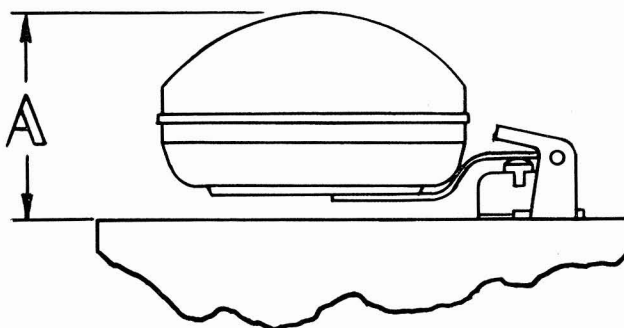

Figure 9
24. Hold the cover and float upside down, as shown in Figure 9, to observe relation of float to cover. To obtain correct fuel level, with normal pump pressure, consult float setting chart for Dimension A. Do not bend the float arm, as new and undamaged parts will come within the limits.